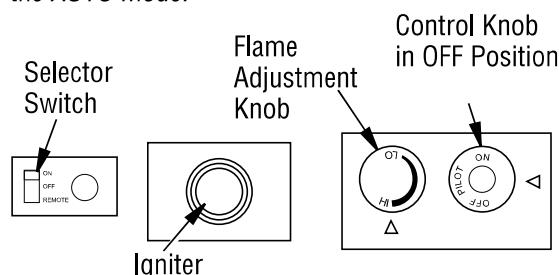

Figure 71 - Control Knob, Igniter Button and Remote Selector Switch
- Wait five (5) minutes to clear out any gas. Then smell for gas, including near the floor. If you smell gas, STOP! Follow "B" in the safety information, column 1. If you don't smell gas, go to the next step.
- Press in and turn control knob counterclockwise ↺ to the PILOT position. Press in control knob for five (5) seconds (see **Figure 71, Page 35**).
After lighting, let pilot flame burn for about one minute. Turn control knob to ON position. Adjust flame adjustment knob anywhere between HI and LO. Slide the selector switch to the REMOTE position (see **Figure 71**).